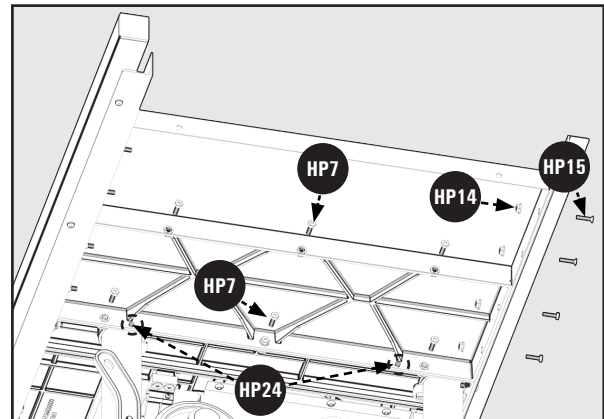

Figure 9
6. Turn the two wings fastened together over and fasten them to side of the saw table using three 5/16 18 x 7/8 inch hex head screws with Split Lock Washers **HP7**. See Figure 9.
**NOTE:** There are four 5/16-18 Set Screws **HP24** for the cast iron extension wing for the 36-5100 T2. Two Set Screws for each cast iron Extension Wing. The set screws are used to adjust the level. See Figure 9.
**NOTE:** There are four 5/16-18 Set Screws **HP24** for the cast iron extension wings for the 36-5100 T2. Two Set Screws for each cast iron Extension Wing. The set screws are used to adjust the level. See Figure 9.